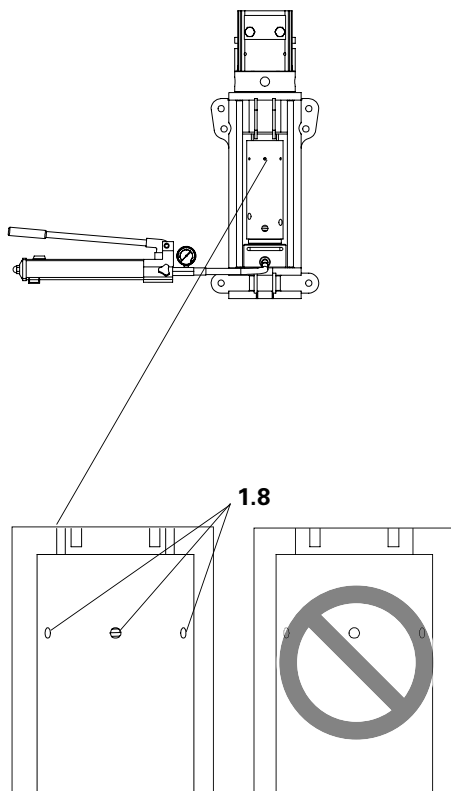

Fig. 20
- As long as the thread is visible through the inspection holes, the spindle height is within the permissible range. (Fig. 20)
9. Observe inspection holes (1.8) and maintain max. spindling height. (Fig. 20)